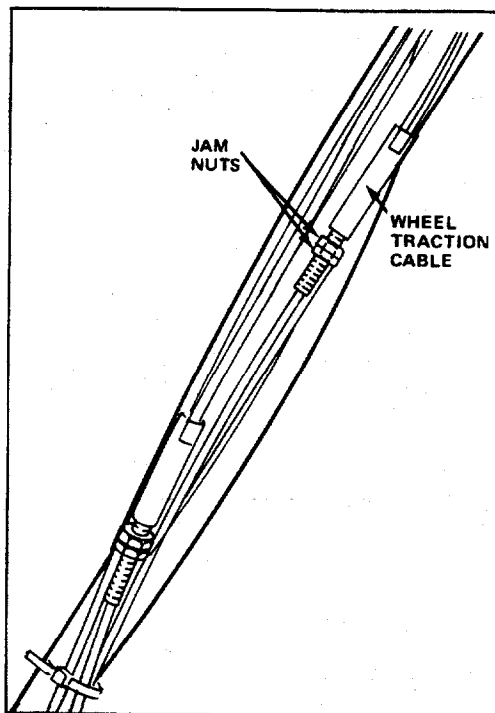

Figure 20
2. Loosen bottom jam nut on wheel traction cable (Fig. 20).